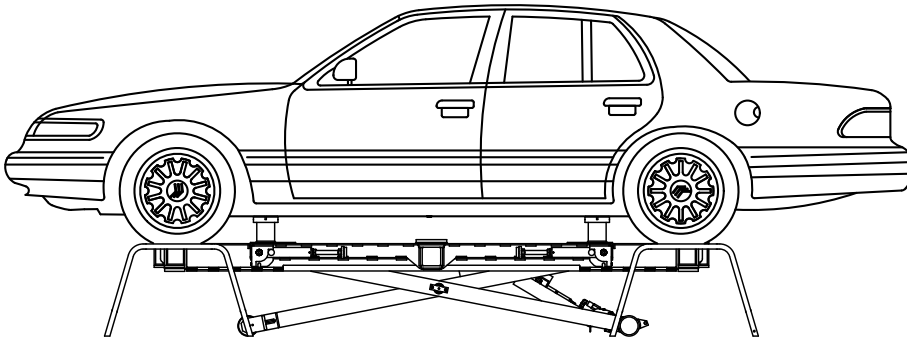

Figure 24
1. Lower the vehicle by pressing the release portion on the pedal of the Lift Pump until the vehicle starts to make contact with the Wheel Stands (Figures 24 and 25).